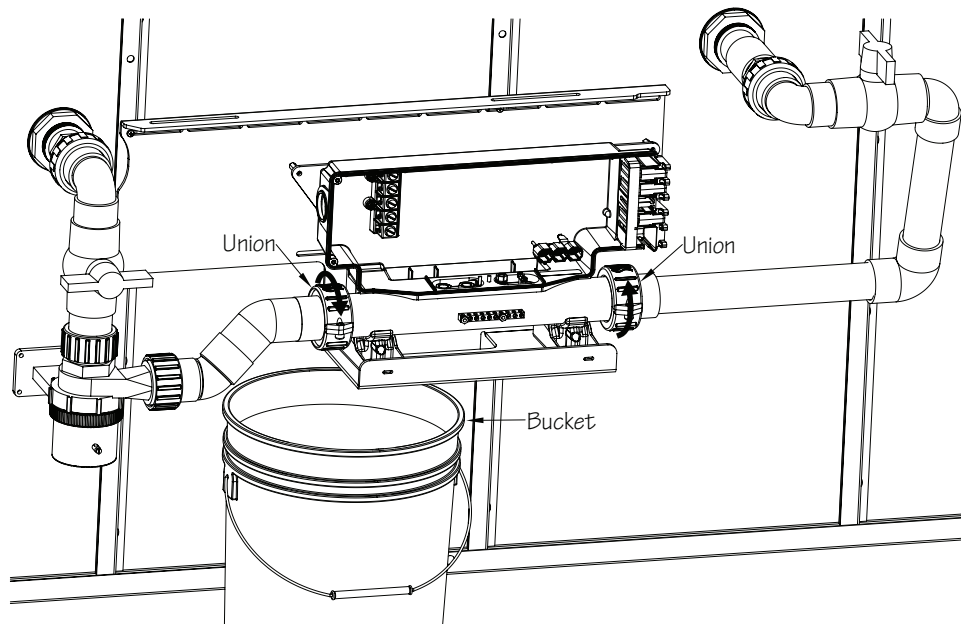

Fig. 9
9. There is a Union on each end of the controller. Place a bucket under the first Union. Crack the Union clockwise to loosen and allow the water in the plumbing to drain into the bucket. Once water is drained, completely unthread unions to remove the controller from the plumbing assembly (Fig. 9).